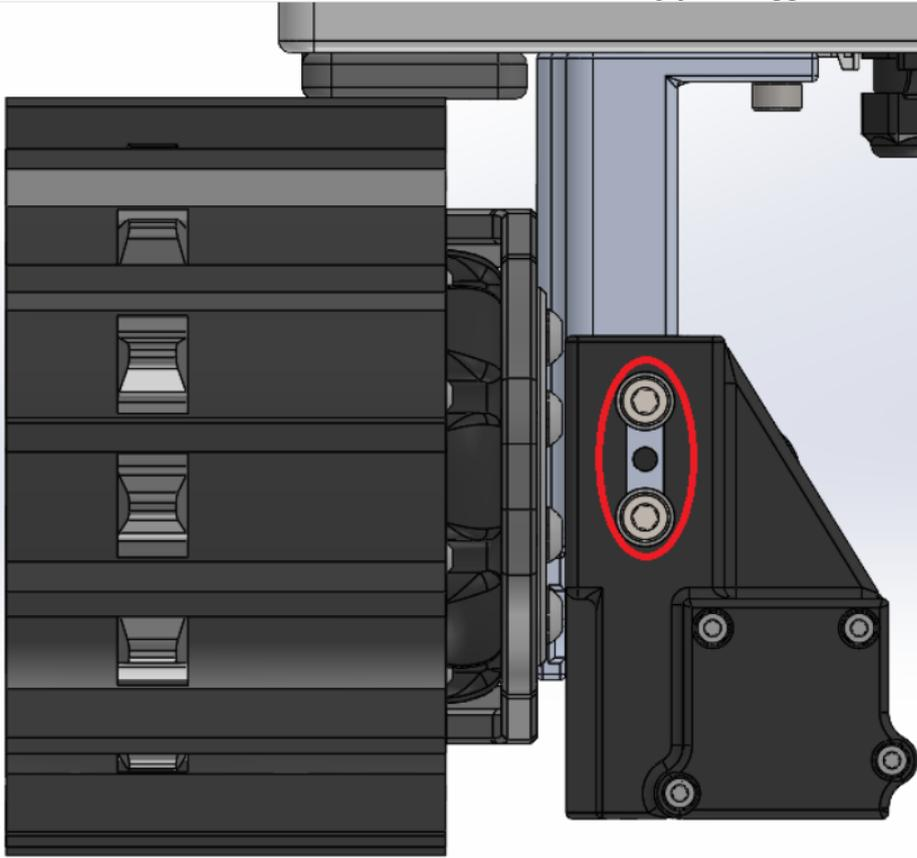
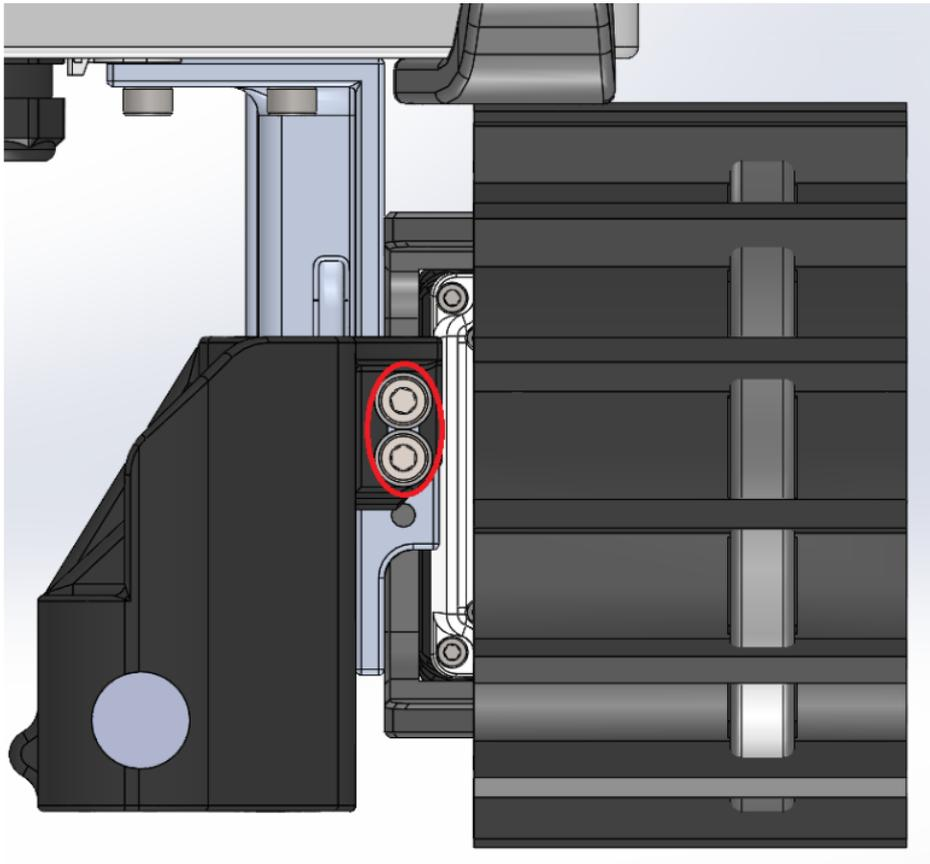

Figure 4. Front location of M5 locking screws for Magnet Bay height adjustment.
Figure 5. Rear location of M5 locking screws for Magnet Bay height adjustment.
2. Loosen or remove the M5 locking screws at the front and back depending on the amount of travel needed (Figure 4 and Figure 5).